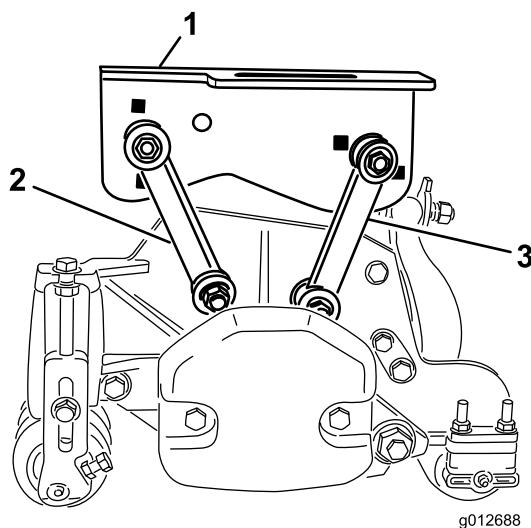

**Figure 16**
2. Position a front carrier frame (Figure 16) onto each front cutting unit.